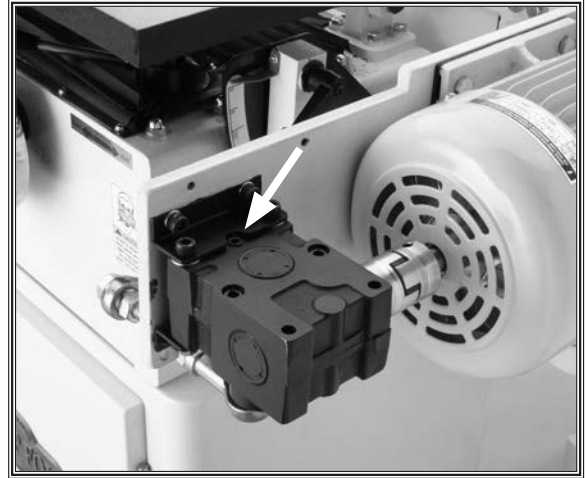

Figure 32. Gear box and oil fill on the Model W1730.
3. Wipe off any dust buildup and remove the oil fill plug on top of the gear box (**Figure 32**). Fill the gear box with SAE 80W gear oil until the level is 1/2" from the top.